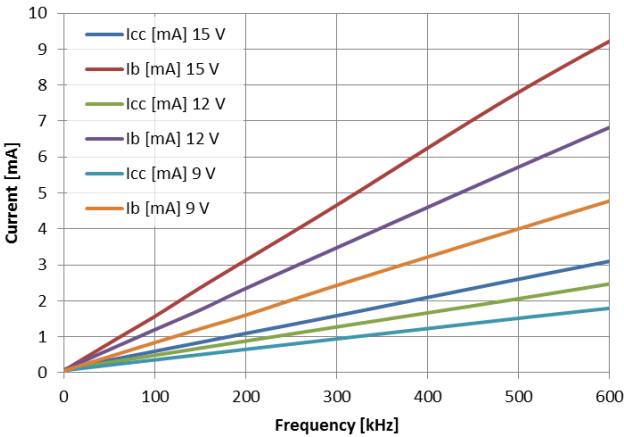

Figure 26. I_{CC} and I_B Current Consumption vs. Frequency
1. Power loss of device (except drivers) while switching at appropriate frequency (see Figure 26) is equal to